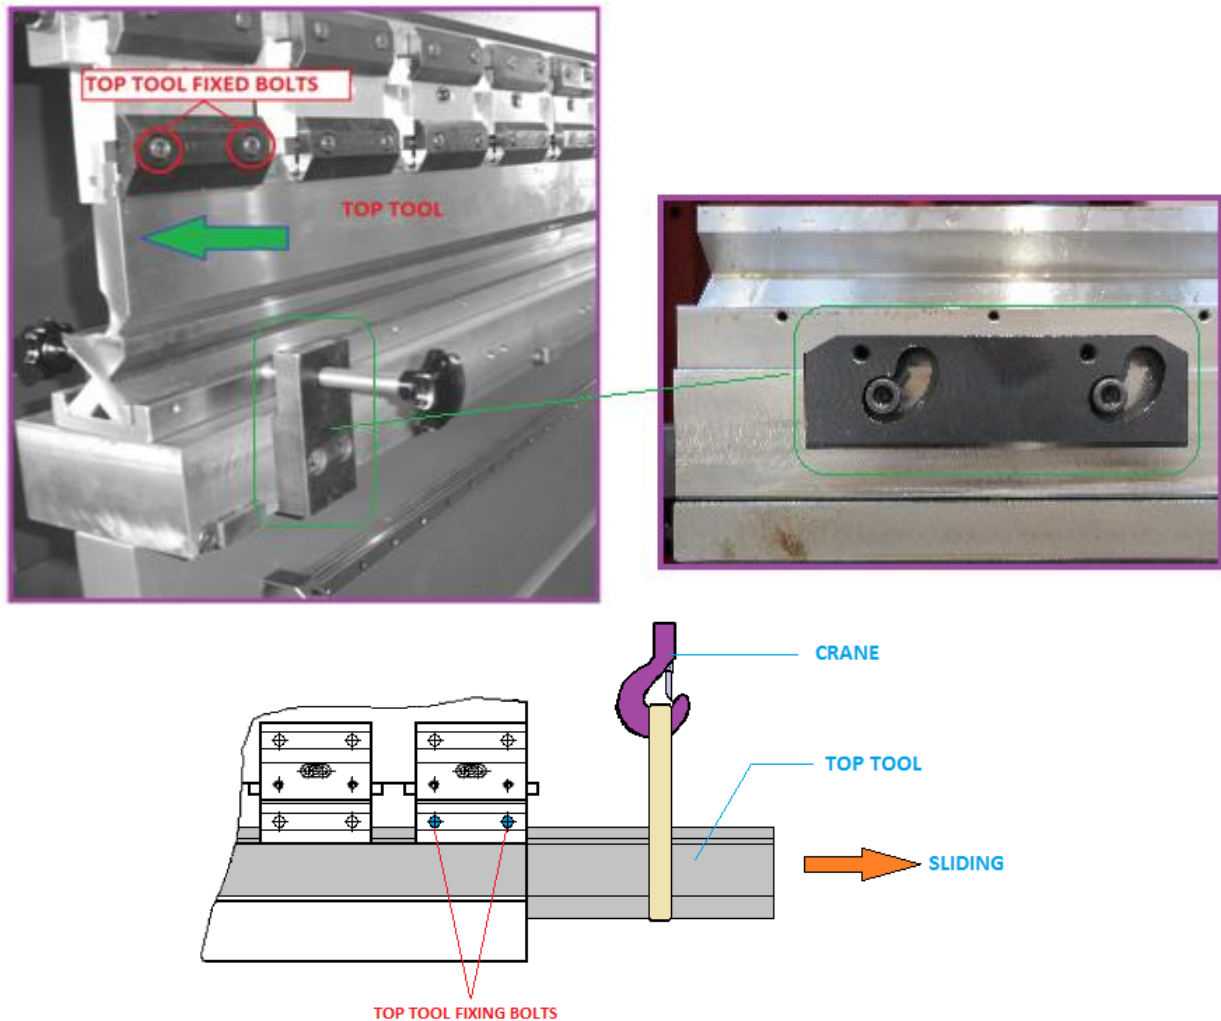

Figure-29: Changing the top tool 1.1. Type 1.
The top tool is fixed in its place as seen in (See Figure-29) below.
2. After stopping the main motor and switching off the main switch, let the top tool sit on the bottom tool " V " slowly by loosening up the fixing bolts (See Figure-29).